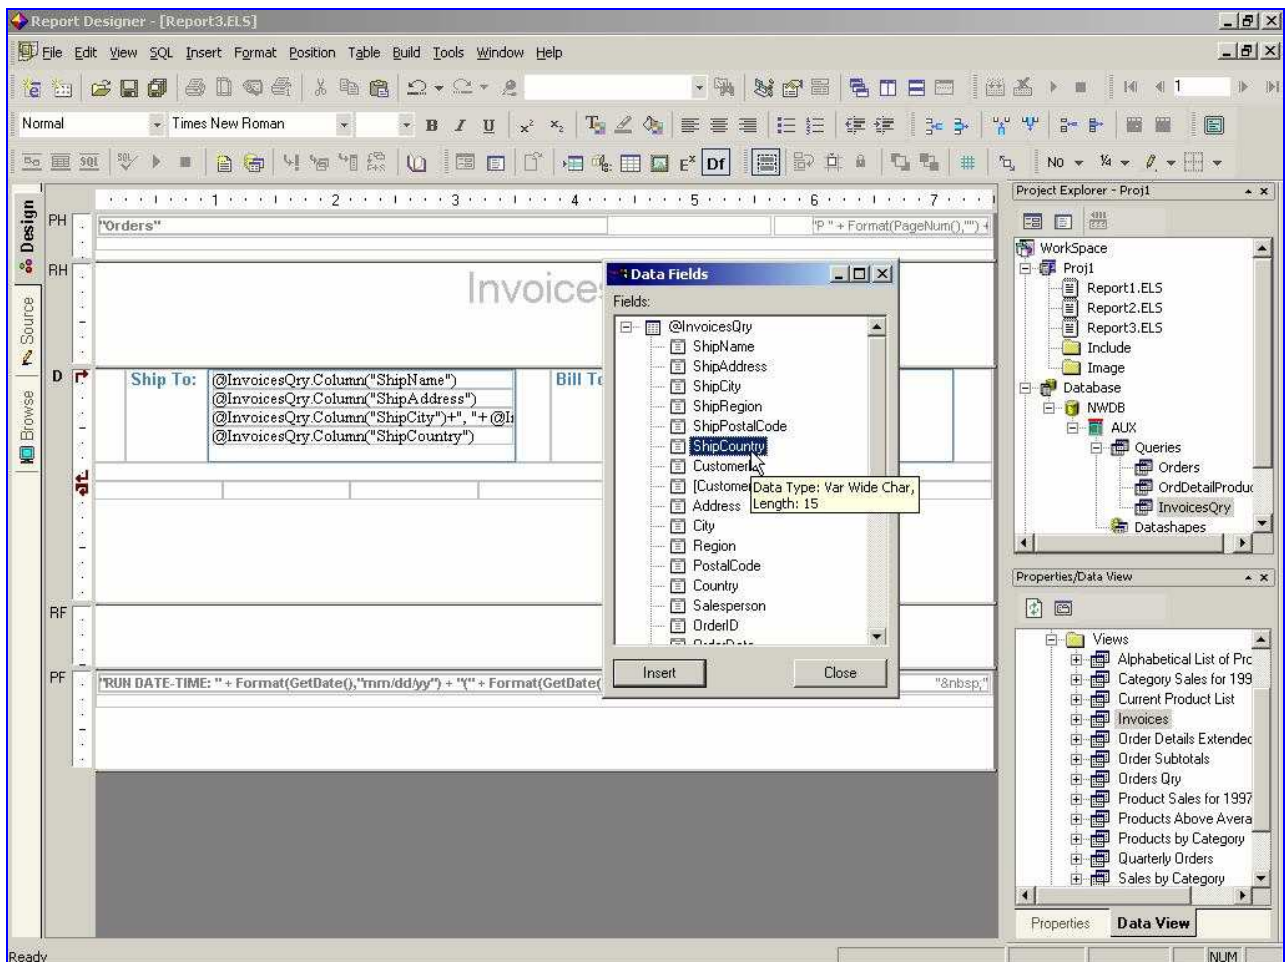

Figure 1.41. Showing the Data Fields window with some fields or expressions already inserted.
We are now ready to insert the data fields related to the *Ship-To* and *Bill-To* addresses of the invoices. So position the cursor in the *Ship-To* column (incidentally, this is the third column from the left), and select the **Data Fields** menu item from the **Insert** menu. This will display the **Data Fields** floating window showing all the data sources that are currently defined inside the report script. In this case, we only defined the *InvoicesQry* data source, so we will see only the *@InvoicesQry* node. Now expand this node by clicking on the (+)-sign icon, as a result, all the fields of the data source will be displayed in the **Data Fields** window, as depicted in Figure 1.41 below.
- Close the **Data Fields** window, and call the **Expression Builder** window via the **Expression Builder** menu item under the **Insert** menu (see Figure 1.41 for more details).